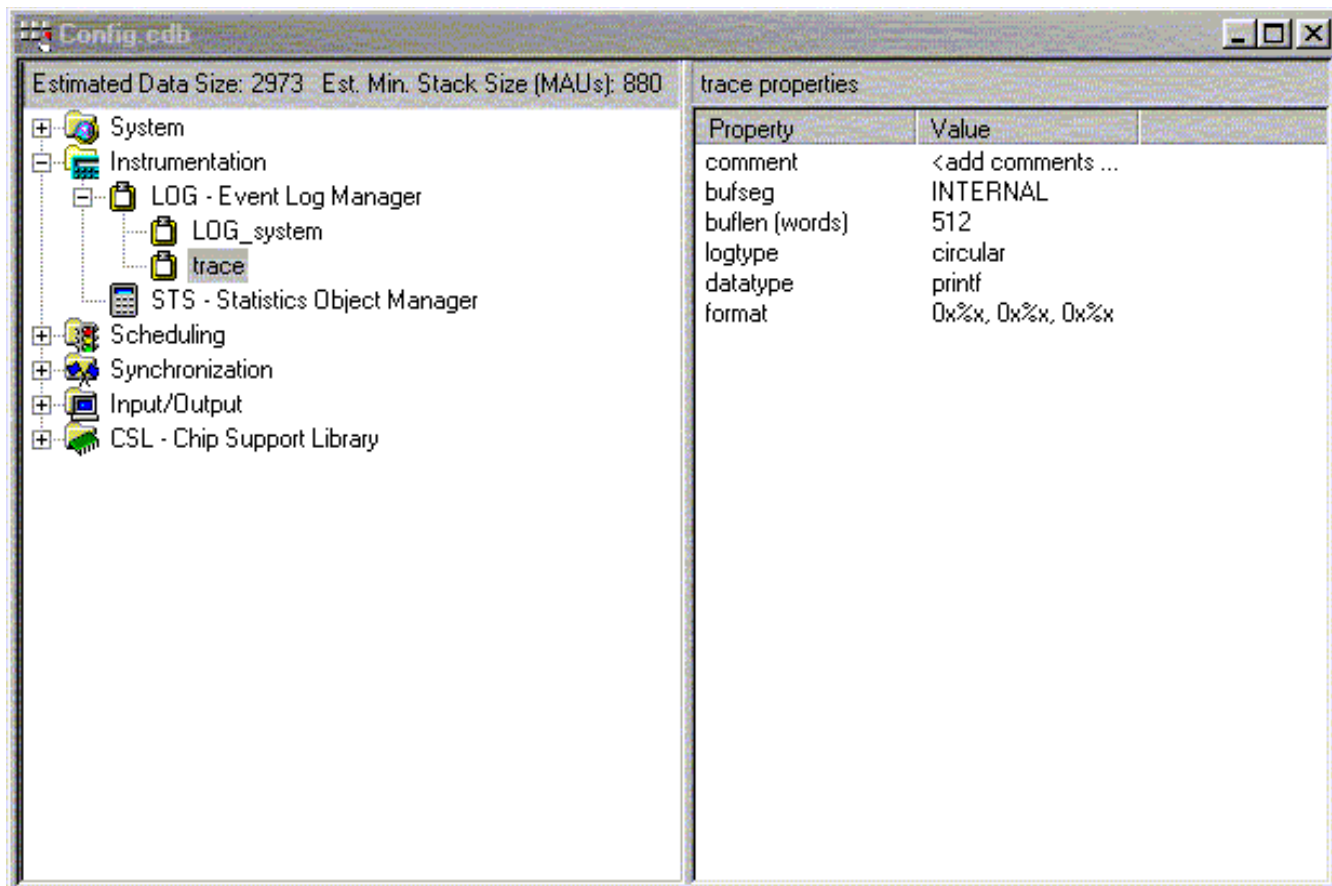
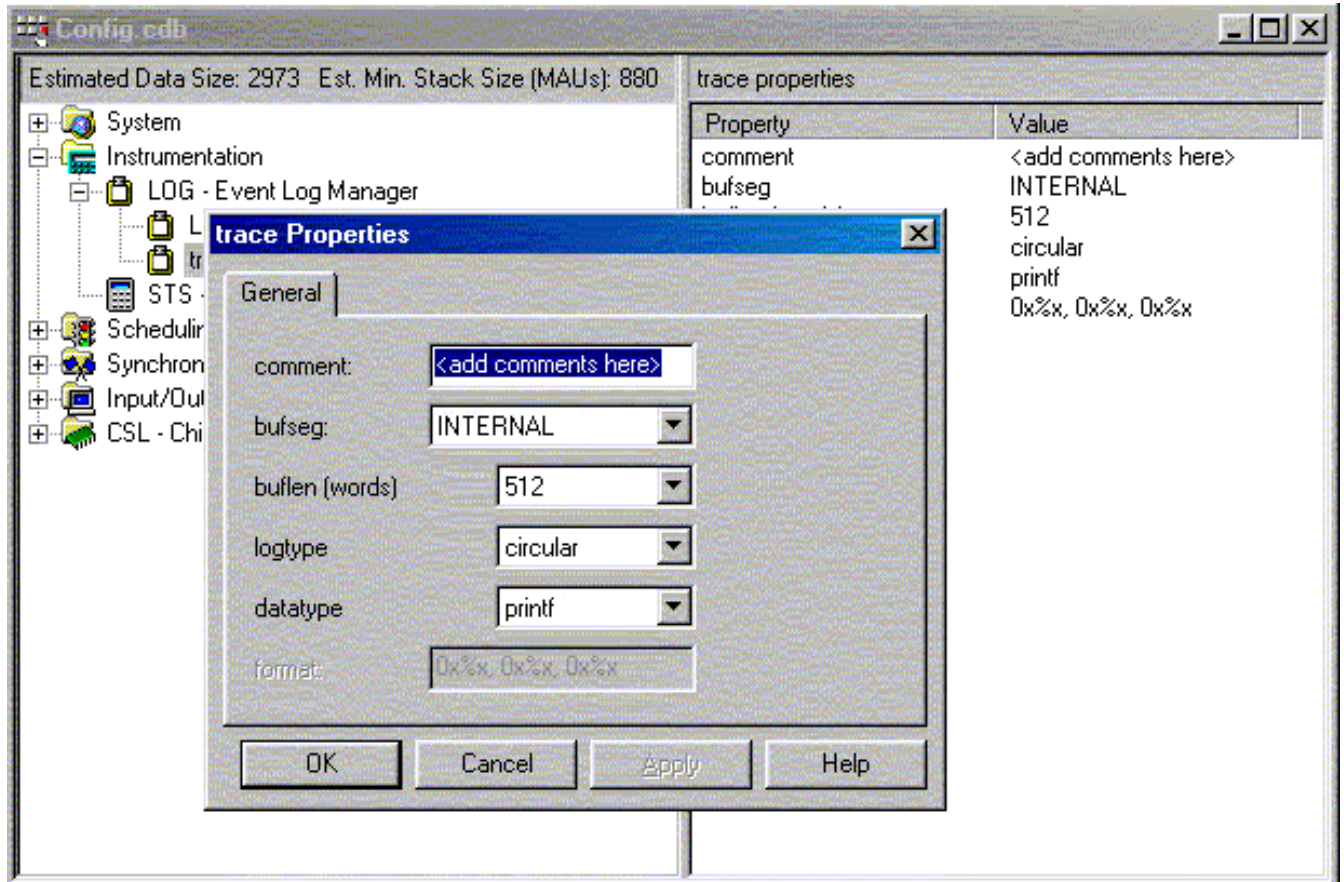

Figure 31. LOG Screen
Figure 32. Trace Properties Tab Options
1. Right click on LOG–Event Log Message and select insert LOG as shown in Figure 31. In the general tab, set the options shown in Figure 32. Create an internal circular buffer of 512 words long.